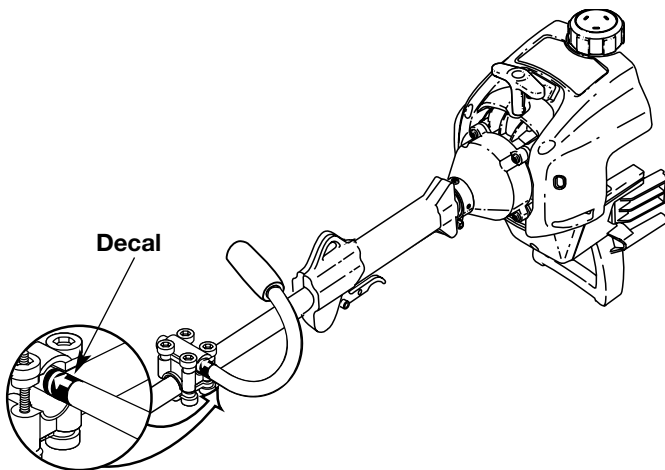

Fig. 2
2. While holding the three pieces together, install the four (4) screws through the top clamp and into middle clamp.
5. Slide the J-handle in or out until the arrow/white line on the decal touches the clamp assembly (Fig. 2).